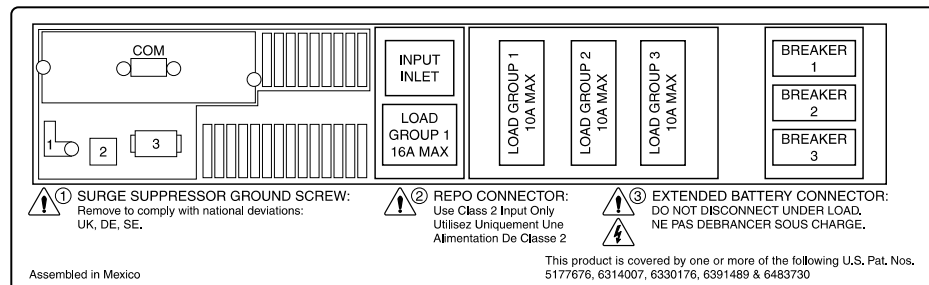

Figure 7. Rear panel configuration label
- Rear panel configuration. See Figure 7 is installed on the cover of the power supply of the SAN Volume Controller.